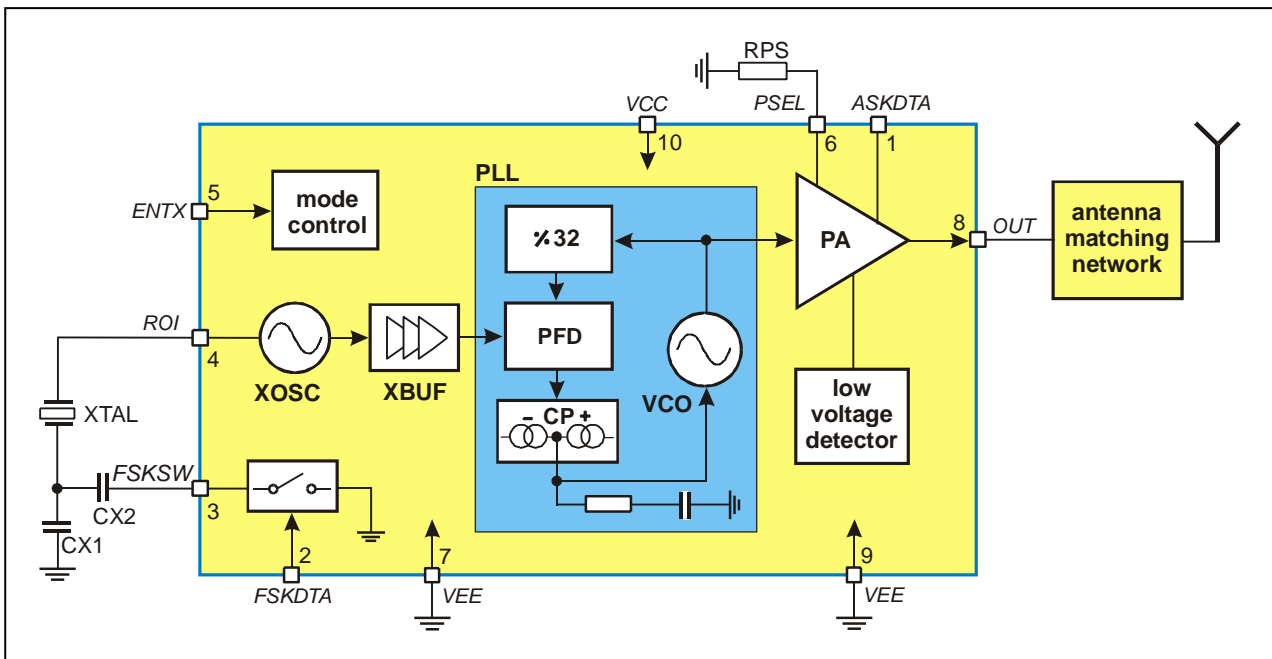

Fig. 1: Block diagram with external components
As depicted in Fig.1, the TH72015 transmitter consists of a fully integrated voltage-controlled oscillator (VCO), a divide-by-32 divider (div32), a phase-frequency detector (PFD) and a charge pump (CP). An internal loop filter determines the dynamic behavior of the PLL and suppresses reference spurious signals. A Colpitts crystal oscillator (XOSC) is used as the reference oscillator of a phase-locked loop (PLL) synthesizer. The VCO's output signal feeds the power amplifier (PA). The RF signal power P_{out} can be adjusted in four steps from $P_{out} = -12$ dBm to +10 dBm, either by changing the value of resistor RPS or by varying the voltage V_{PS} at pin PSEL. The open-collector output (OUT) can be used either to directly drive a loop antenna or to be matched to a 50ohm load. Bandgap biasing ensures stable operation of the IC at a power supply range of 1.95 V to 5.5 V.